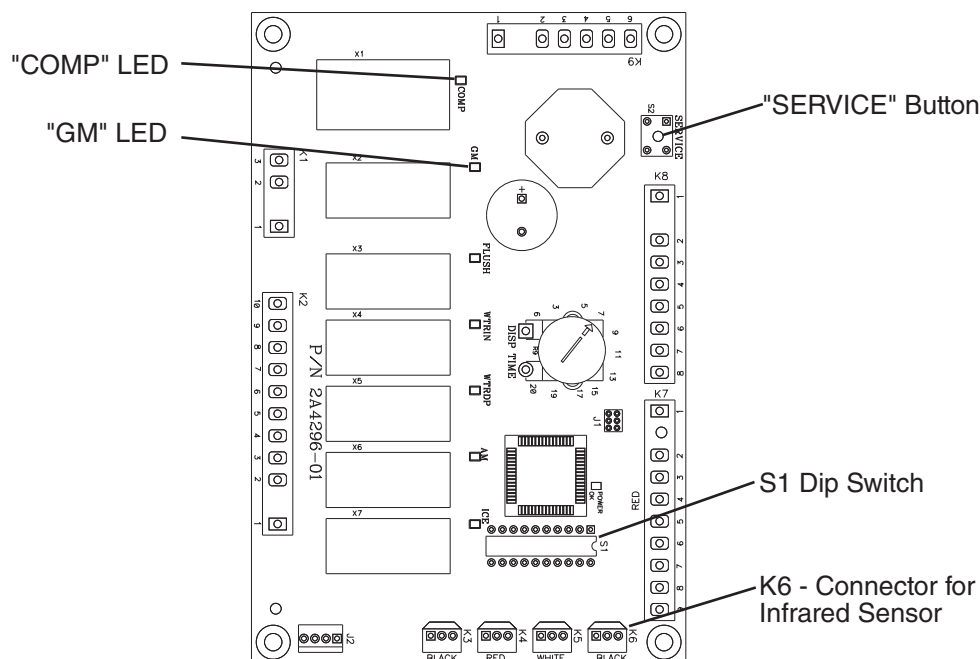

Fig. 15
- 6) 30 seconds after the upper float switch closes, the control board "GM" LED turns on. See Fig. 15. After "GM" LED turns on, press the "SERVICE" button on the control board to bypass the 5-minute compressor delay. **WARNING! Risk of electric shock. Care should be taken not to touch live terminals.**